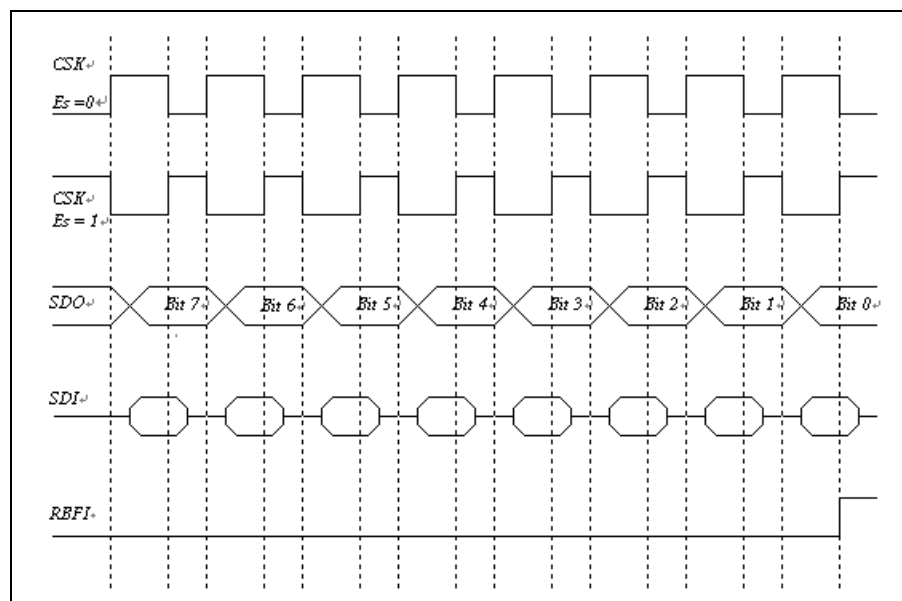
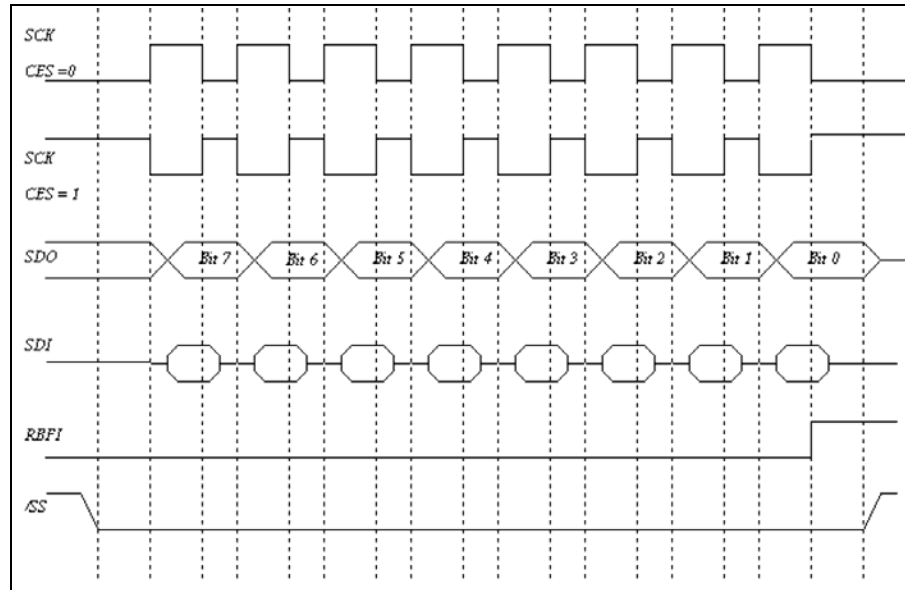

Figure 6-9 SPI Mode with /SS Disabled
Figure 6-10 SPI Mode with /SS Enabled
- Timing is shown in Figure 6-9 and 6-10.
- Timing is shown in Figures 6-9 and 6-10.
The edge of SCK is selected by programming bit CES. The waveform shown in Figure 6-9 is applicable regardless whether the EM78M680 is in master or slave mode with /SS disabled. However, the waveform in Figure 6-10 can only be implemented in slave mode with /SS enabled.